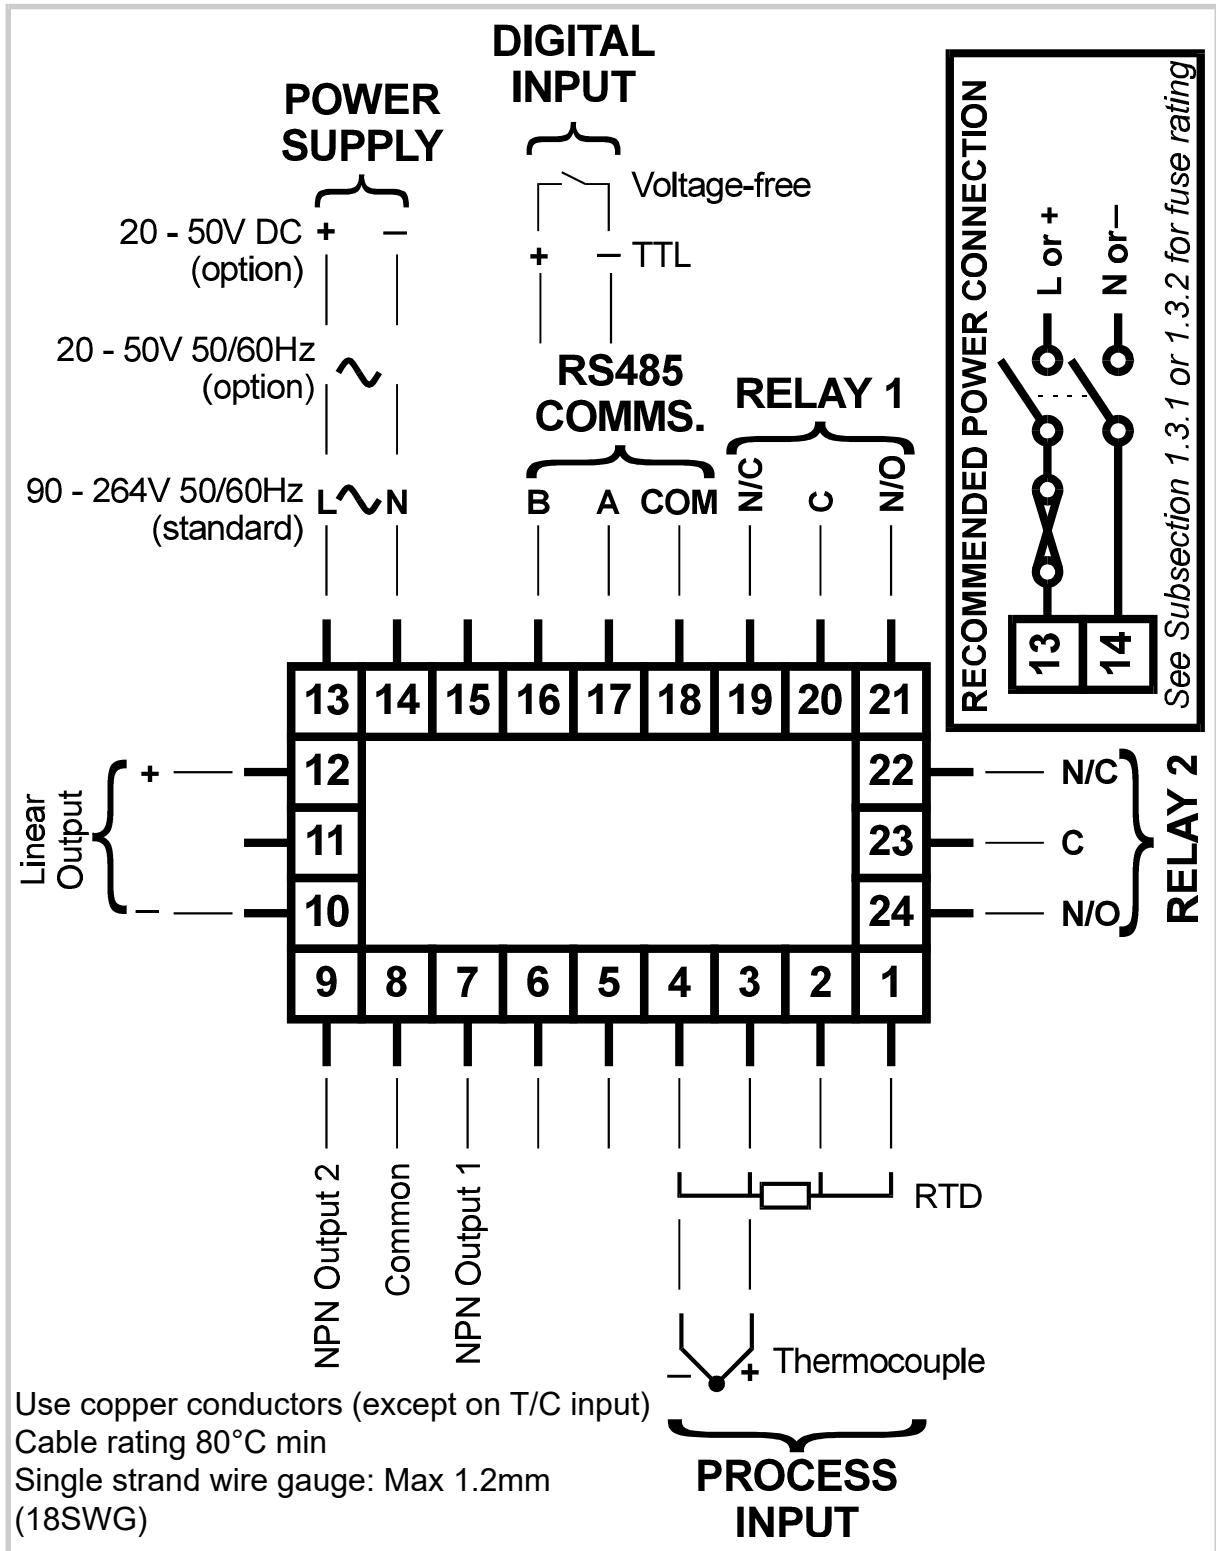

Figure 1-4 Rear Terminal Connections
The rear terminal connections are shown in Figure 1-4.
**CAUTION:** This equipment is designed for installation in an enclosure which provides adequate protection against electric shock. Local regulations regarding electrical installation should be rigidly observed. Consideration should be given to prevention of access to the power terminations by unauthorised personnel. Power should be connected via a two-pole isolating switch (preferably situated near to the equipment) and a 1A fuse, as shown in Figure 1-4.
Power should be connected via a two-pole isolating switch and a 315mA slow-blow (anti-surge Type T) fuse. With this option fitted, the Indicator will accept 20 - 50V AC @ 50/60Hz or 20 -50V DC in the polarity shown in Figure 1-4.